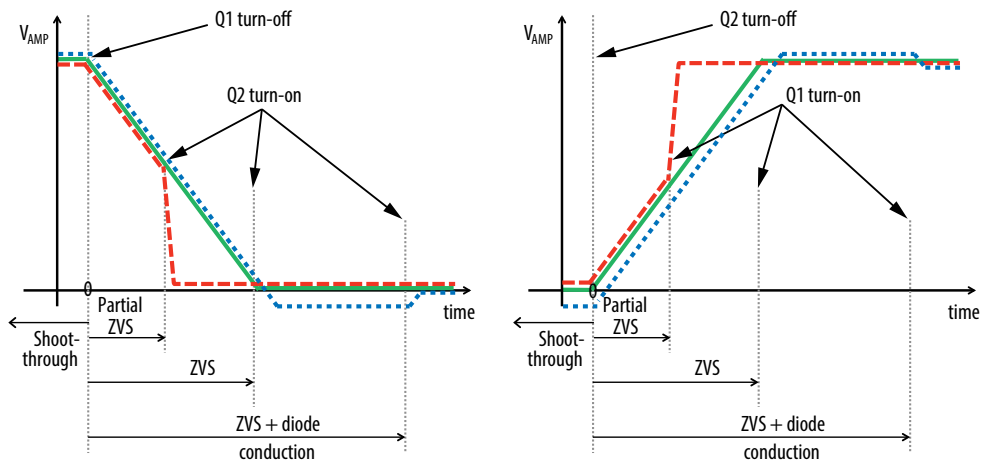

Figure 10: ZVS timing diagrams
Setting the correct time to establish ZVS transitions is critical to achieving high efficiency with the EPC9510 amplifier. This can be done by selecting the values for R71 and R72 or P71 and P72 respectively. This procedure is best performed using a potentiometer installed at the appropriate locations that is used to determine the fixed resistor values. The timing MUST initially be set WITHOUT the source coil connected to the amplifier. The timing diagrams are given in figure 10 and should be referenced when following this procedure. Only perform these steps if changes have been made to the board as it is shipped preset. The steps are:
6. While observing the oscilloscope adjust the applicable potentiometers to so achieve the green waveform of figure 10.